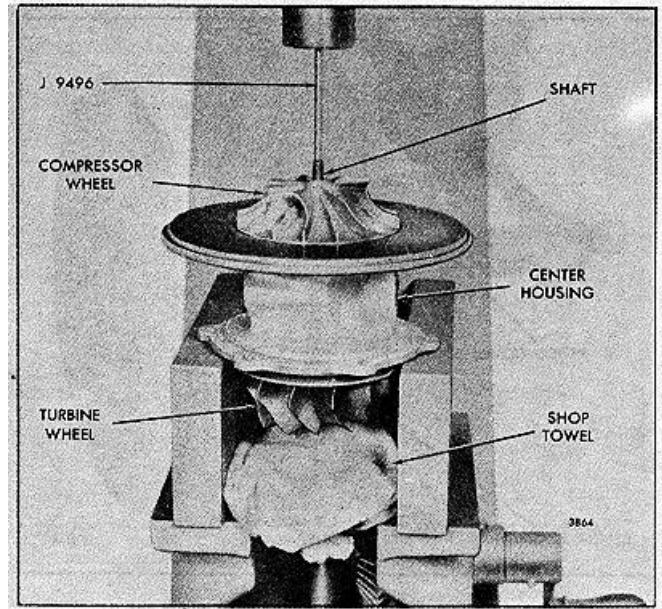

FIG. 16 - Removing Shaft from Compressor Wheel
- d. After heating the compressor wheel, remove the center housing and rotating assembly and support it on the bed of an arbor press with the compressor wheel end up (Fig. 16).
- e. Place a clean shop towel on the bed of the press and under the turbine wheel to protect the blades. Then place the tapered end of the removing tool J 9496 in the center of the shaft and the opposite end under the ram of the press (Fig. 16). Press the shaft out of the compressor wheel.